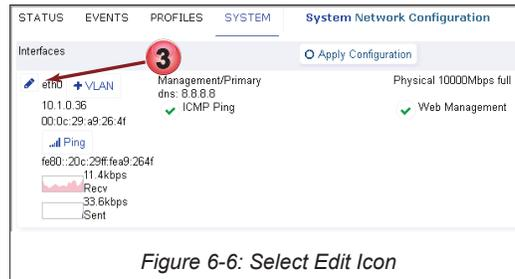

Figure 6-6: Select Edit Icon
- To edit the eth0 management network settings click the **Edit Icon**  on eth0 interface, Figure 6-6.